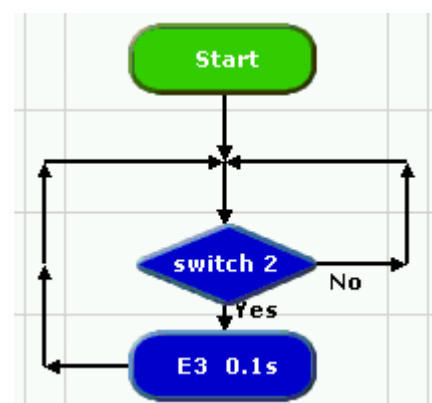
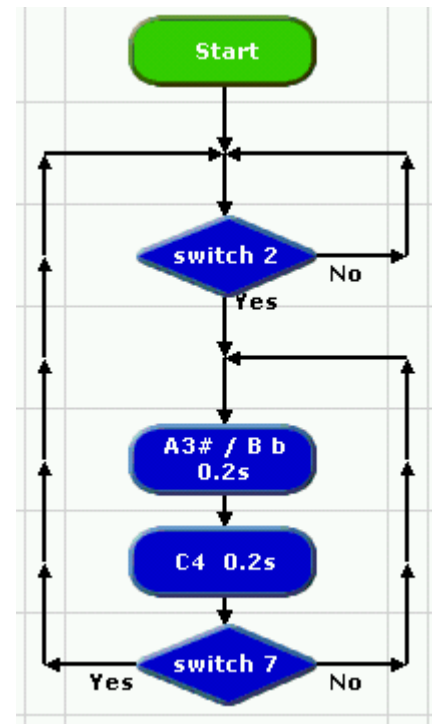

Fig 3. This program makes a sound whenever you press switch 2.
Fig 4. Alarm system with one sensor and a reset switch.
4. Draw the lines on the program as shown in Fig 3.
Fig 4 shows a program for a simple burglar alarm system. Switch 2 on the T-board is used as the sensor that responds if a burglar treads on it.
1. Start with your Fig 3 program; and edit it to be like Fig 4.